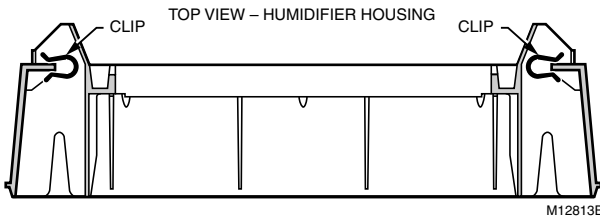

Fig. 4. Position securing clips.
7. Position the securing clips as shown in Fig. 4.